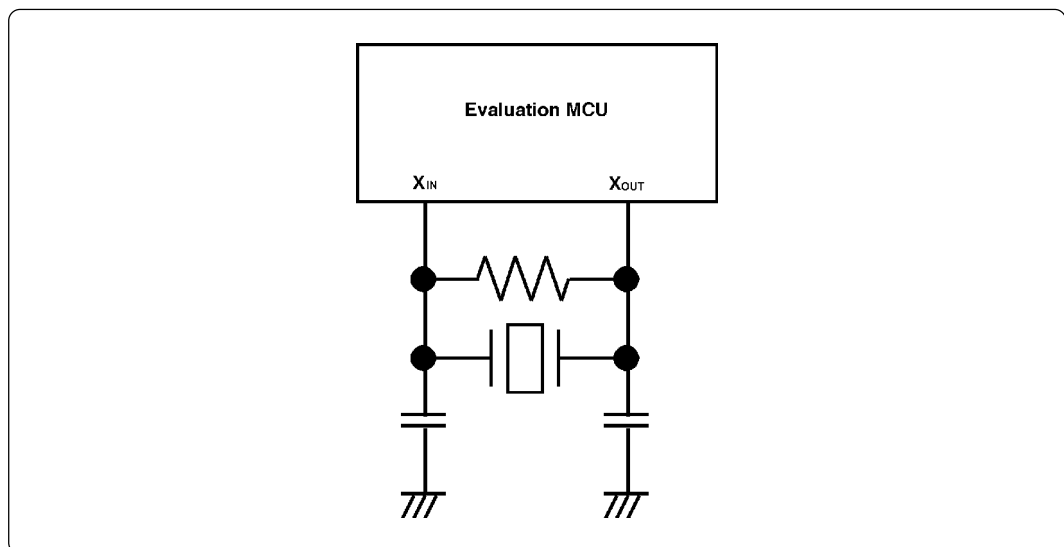

Figure 3.5 Circuit in which oscillation does not occur (same for  $X_{CIN}$ - $X_{COUT}$ )
- Make note of the fact that in the oscillator circuit shown in Figure 3.5 where a resonator is connected between the  $X_{IN}$  and  $X_{OUT}$  pins, oscillation does not occur because a flexible cable, pitch converter board and other devices are used between the evaluation MCU and the target system. It is same for sub-clock oscillator circuits ( $X_{CIN}$  and  $X_{COUT}$ ).